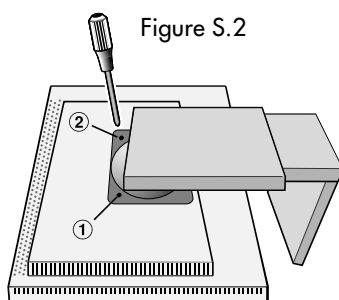
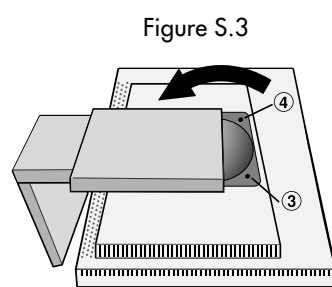

Figure S.2
Figure S.3
4. Remove the two top screws connecting the display to the stand (**Figure S.2**). Turn the stand to 180° counter clockwise (you will hear two clicks). Remove the screws from the bottom (**Figure S.3**) and lift off the stand. The display is now ready for mounting in an alternate manner.